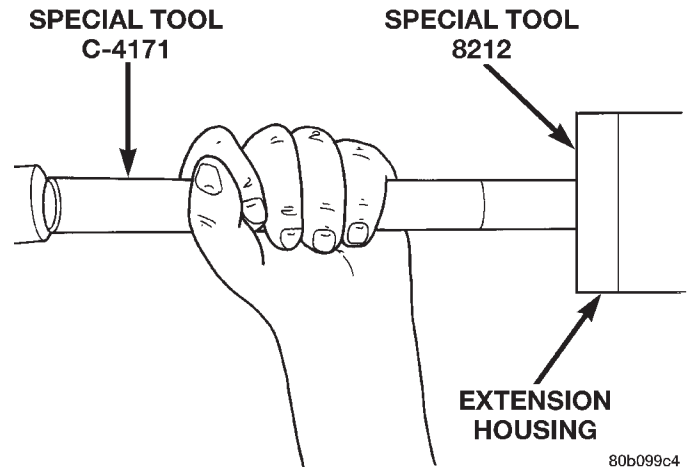

Fig. 14 Install Extension Housing Seal
(1) Clean seal bore of extension housing of any residual sealer material from original seal.
(2) Using Tool Handle C-4171 and Seal Installer 8212, install new extension housing seal so that the seal is located 0 ± 0.5 mm (0 ± 0.02 in.) to the face of the extension housing (Fig. 14).
(3) Install propeller shaft. Refer to Group 3, Differential and Driveline, for proper procedures.
(4) Check and add fluid to transmission as necessary. Refer to the Recommended Lubricant section for proper fluid requirements.
(5) Lower vehicle.